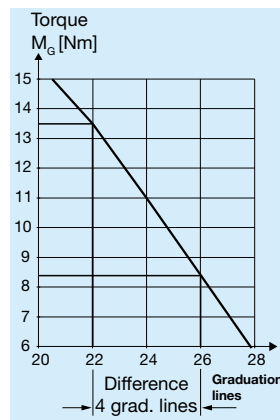
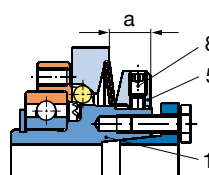
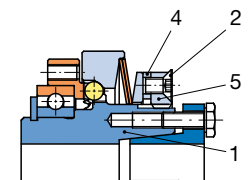

Fig. 4 (The diagram only serves as an example)
Fig. 7
Fig. 8
**EAS®-NC size 03 (Fig. 7):**
- Unscrew both set screws (8) from the adjusting nut (5).
- Grease the thread surfaces on the adjusting nut (5) and the hub (1).
- Set the adjusting nut (5) to the required dimension “a” (acc. Adjustment Diagram) using a hook wrench.
- Paint both set screws (8) with Loctite 243, screw them into the adjusting nut (5) and tighten them.
**EAS®-NC size 02 (Fig. 8 and Fig. 4):**
- Loosen the locking screw (2).
- Grease the contact surfaces on the adjusting nut (5), the locking ring (4) and the hub (1).
- Set the adjusting nut (5) by hand to the contact on the cup spring (9).
- Continue to turn until the four notches on the circumference of the adjusting nut (5) and the notches in the locking ring (4) align.
- Turn the adjusting nut (5) further using a face wrench to the number of graduation lines which equal the required torque (Fig. 4, number of graduation lines in the Adjustment Diagram). The 4 notches on the circumference of the adjusting nut (5) and on the locking ring (4) must be in the same position.
- Paint both set screws (8) with Loctite 243 and screw them into the adjusting nut (5).